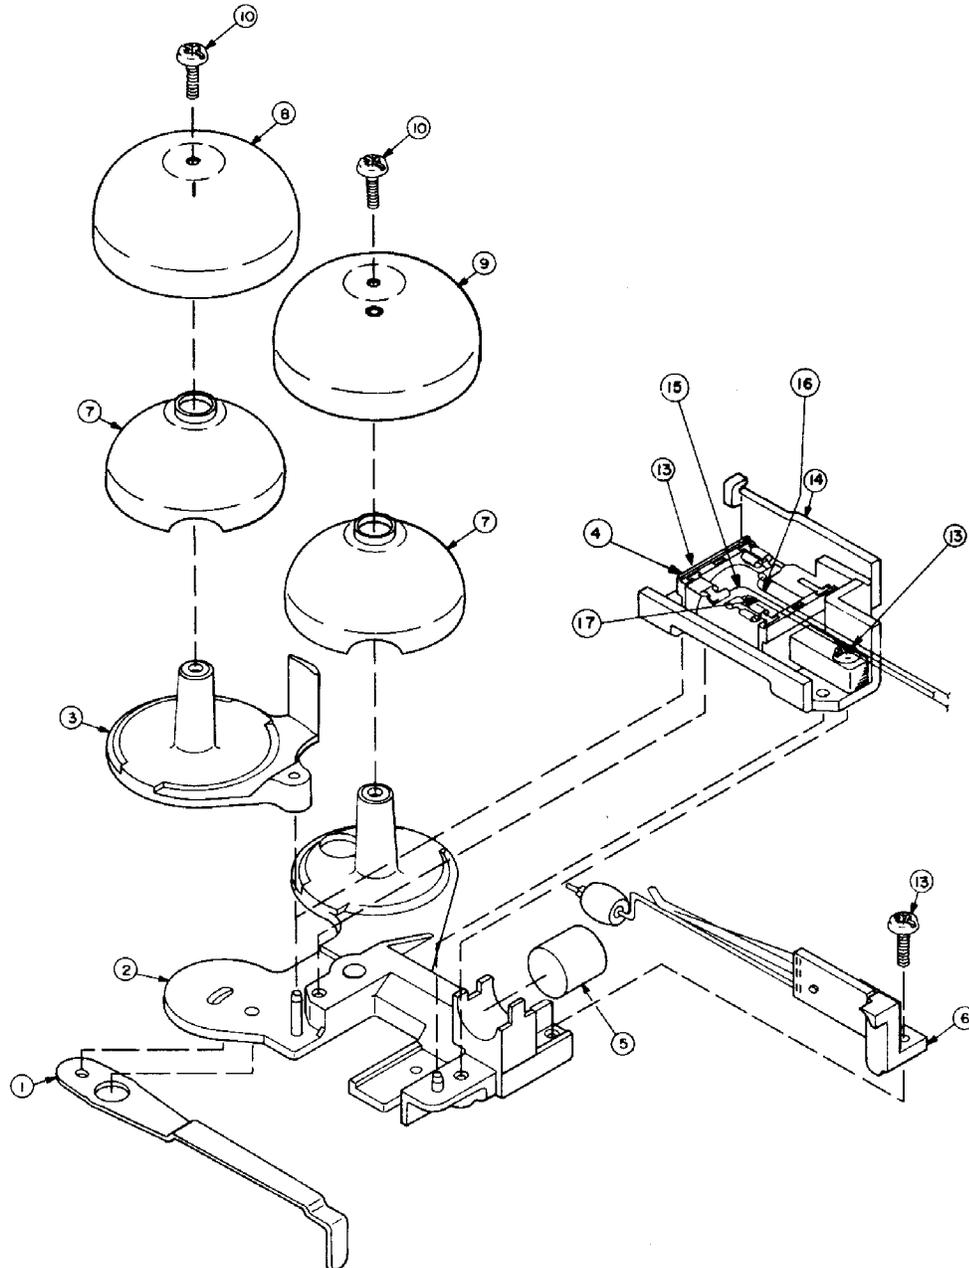

Figure 8. Type 48 Straight-Line Ringer.
10.01 The Type 48 ringer (Figure 8) is a single-magnet, single-coil, double-gong, straight-line ringer and replaces the Type 45 ringer in its straight-line or superimposed
10.02 To disassemble the Type 48 Ringer, refer to Figure 8 and proceed as follows:
- (a) Remove the mounting screw (item 13) from the armature and clapper assembly (item 6). Make sure the bias spring is free from the pole piece notch before removing the armature and clapper assembly.
- (b) Remove the magnet (item 5) from its mounting cradle.
- (c) Remove the mounting screws (item 13) from the coil and pole piece assembly (item 4) and lift it upward to free it from the mounting base (item 2).
- (d) To remove the right-hand (bias adjuster side) gong (item 9) and resonator (item 7) from their gong base, remove the mounting screw (item 10) and lift the gong and resonator upward to free them.
- (e) To remove the gong (item 8), resonator (item 7), and gong base (item 3), remove the mounting screw (item 10) and lift upward on the gong base to remove these components from the ringer assembly.
10.03 To assemble the Type 48 Ringer, refer to Figure 8, and proceed as follows:
- (b) Align the coil and pole-piece assembly (item 4) over the post to the left of the magnet and insert and fasten the mounting screws (item 13).
- (c) Place the magnet (item 15) into its mounting cradle.